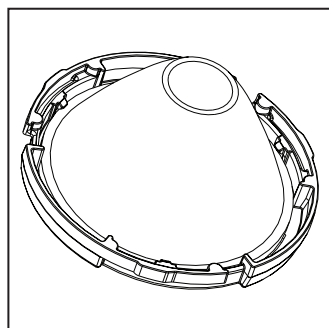

Figure 16
Step 3. Remove optic from black optic holder. Snap the new optic into the black optic holder (Fig. 16).